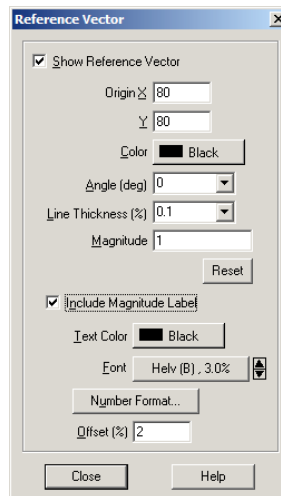

Figure 11-11. The Reference Vector dialog.
1. From the Vector sub-menu of the Plot menu, choose Reference Vector. The Reference Vector dialog appears as shown in Figure 11-11.